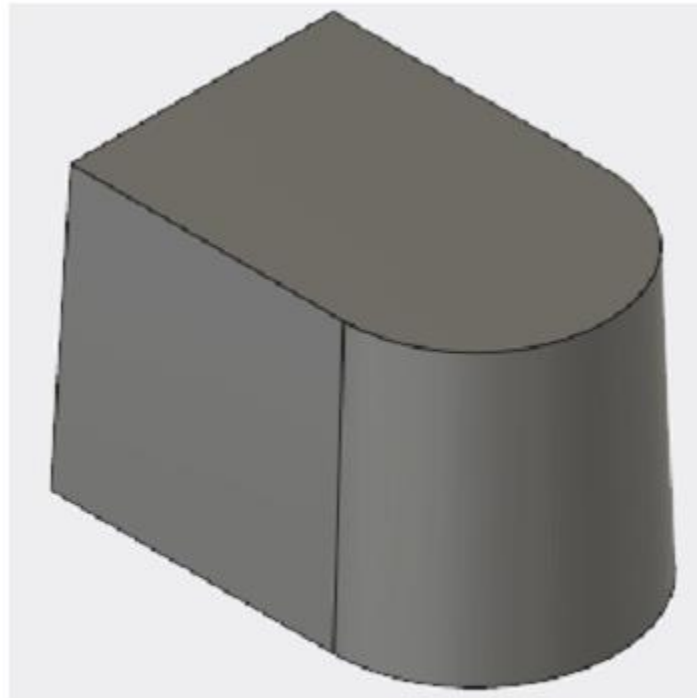

Figure 9–23
8. Complete the feature. The part should display as shown in Figure 9–23.